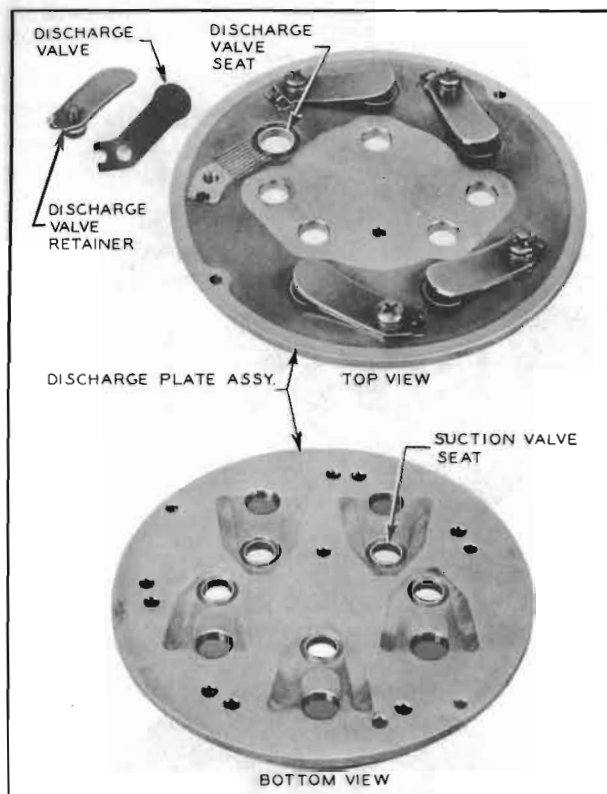

Figure 11-38—Discharge Plate Assembly
6. Inspect both discharge plate (thick) and suction plate (thin) for damage, particularly valve reeds and seats, see Fig. 11-38, as broken reeds normally cause damage to seats or discharge plate.